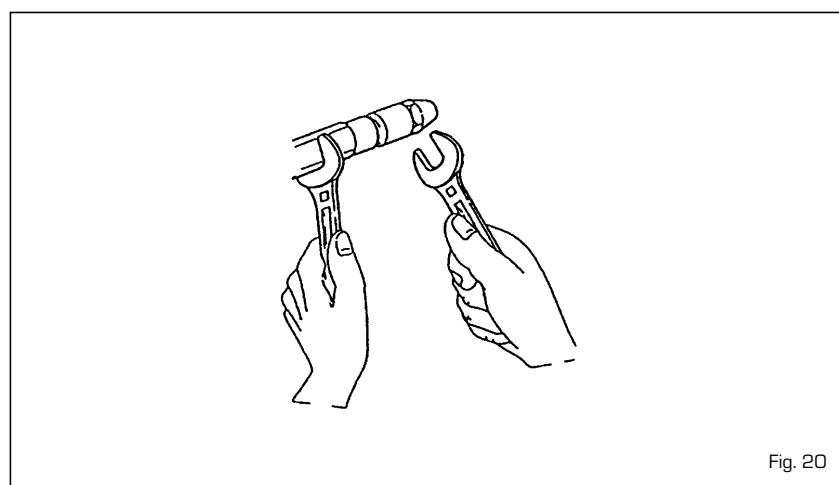

Fig. 20
4.5.3 Substitution of nozzle (fig. 20)
- Block the spray door using a n°19 spanner and unscrew the nozzle with a n°16 spanner (fig. 20).